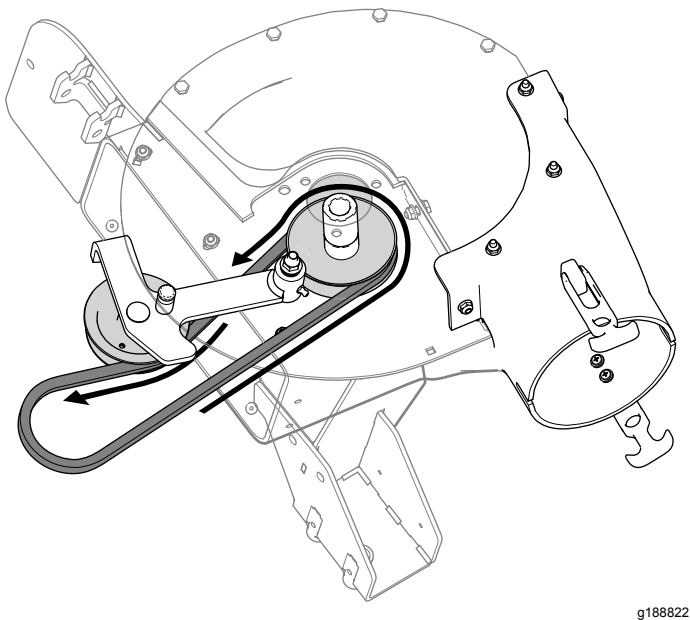

**Figure 37**
- Align the pivot pin on the blower with the pivot-pin hole in the mower deck (**Figure 37**).
- Lower the blower and slide the pivot pin into the pivot hole (**Figure 37**).